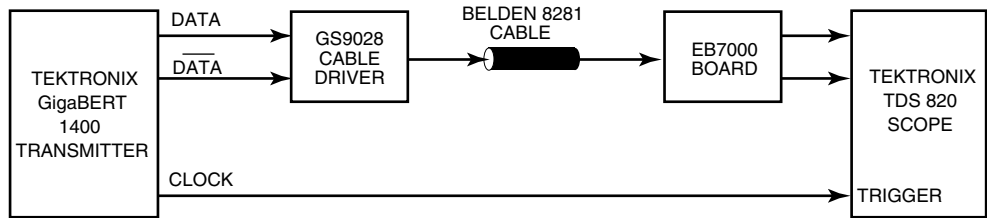

Fig. 1a Test Setup for Jitter Measurements
4. Evaluated using test setup Figure 1a.